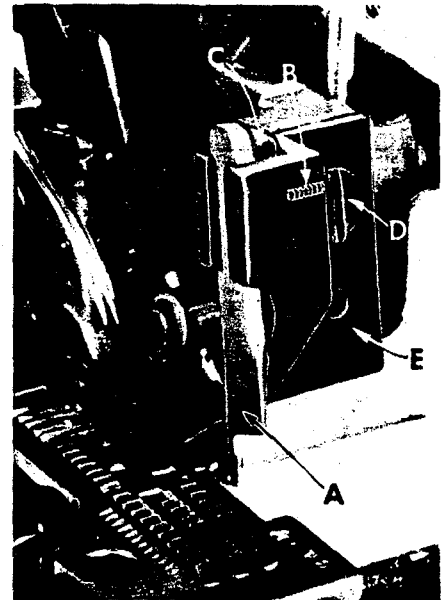

Fig. 12
Replace upper knife assembly. Clamp upper knife (A, Fig. 12) in position, setting allen screw (B) to hold clamp (C) against the upper knife. At bottom of its stroke, front cutting edge of upper knife should extend not less than  $1/64$  inch below cutting edge of the lower knife.